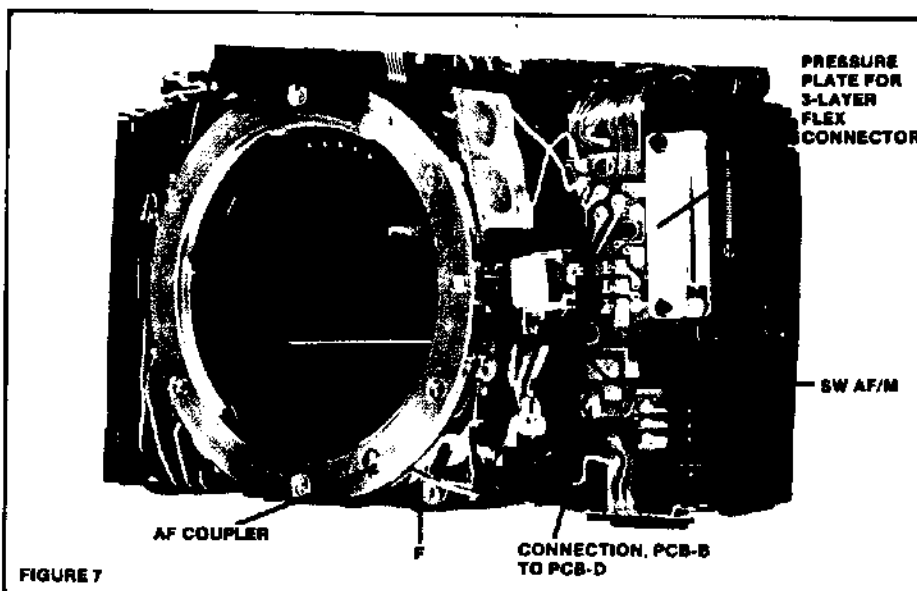

FIGURE 7
c. The AF coupler should now project 1.6 ± 0.2 , -0mm from the lens mount. Adjust with screw F, Fig. 7.
SW AF/M. Focus-mode switch, Fig. 7. Open for AF mode, closed for M mode.